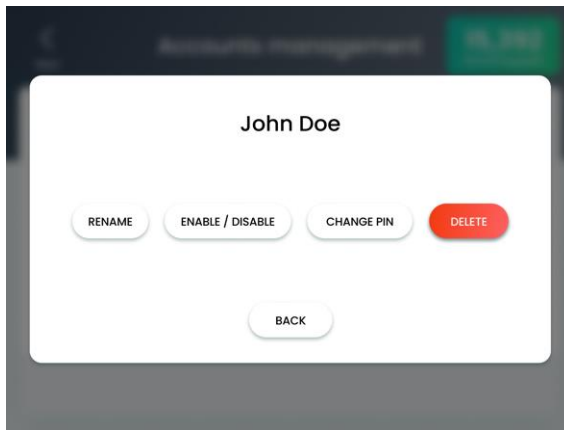

Figure 6-8. Selected User's Account Screen
2. In the Accounts screen, tap the User entry that is to be enabled/disabled; the selected user's Account screen appears, as shown in Figure 6-8.